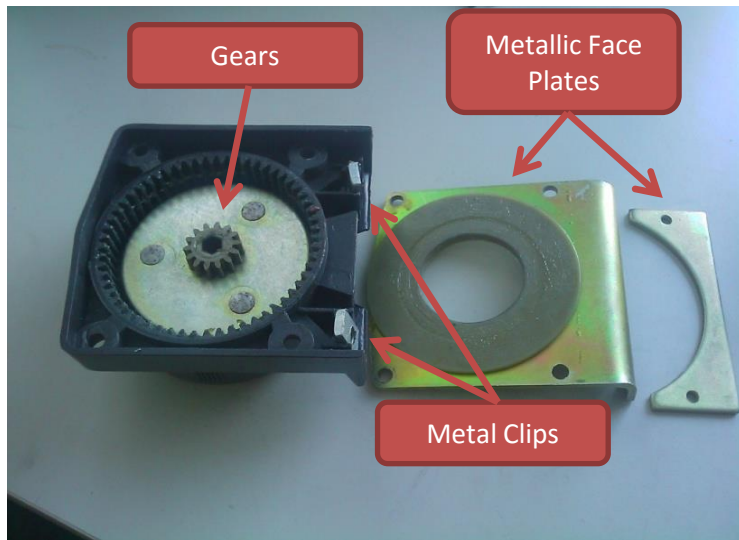

Figure 10
Once the two gear box bolts are removed, the two metallic face plate parts should pull off easily, exposing the gear box. (See Figure 10)
Note the two (2) metal clips that rest inside the plastic housing, they can be removed and set aside for later installation. (See Figure 10)